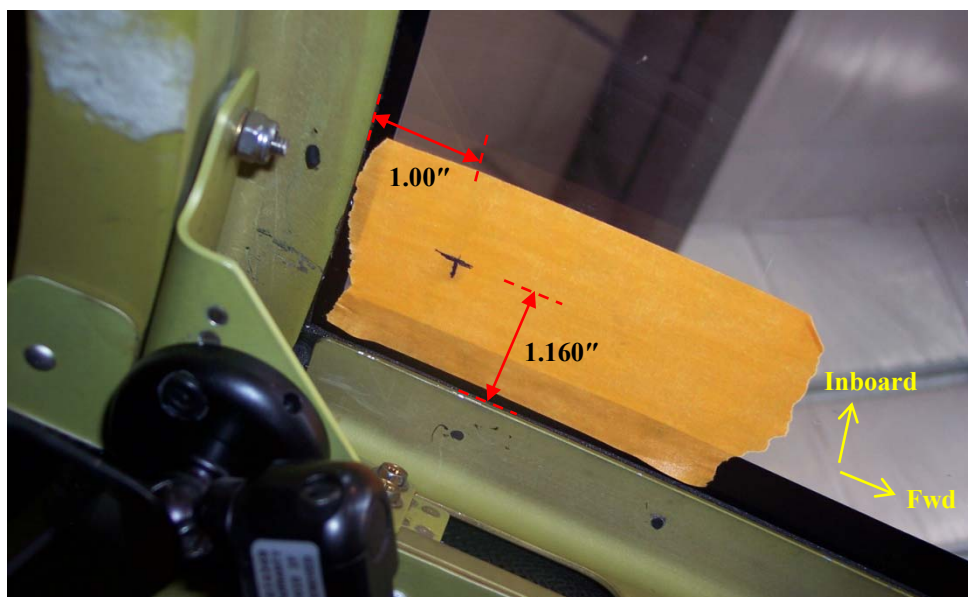

Figure 5-3: Marked Location of Clip, Pilot Side
4. On the inside of the windshield, measure 1.160" (± 0.030 ") in from the outside edge of the outboard frame and mark this measurement on the masking tape. Refer to **Figure 5-3** for an illustration of the clip measurement. The cross hatch is the intended location for drilling.